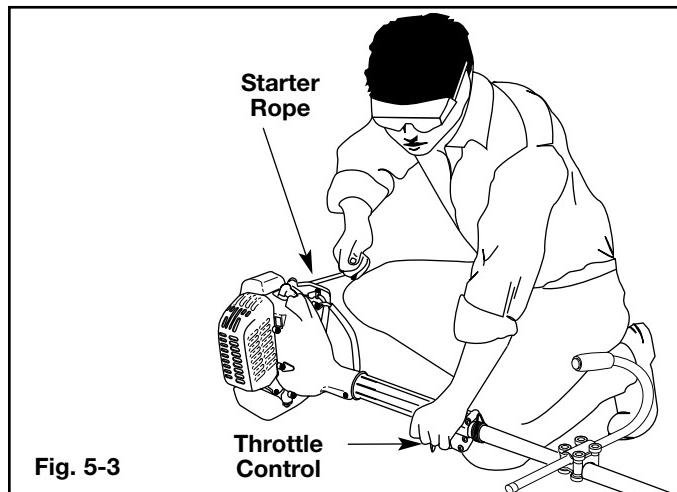

Fig. 5-3
7. With the unit in the starting position (Fig. 5-3) pull the starter rope briskly 5 times in the **FULL** choke (**A**) $\downarrow\lrcorner$ position. If the engine attempts to run before the fifth pull, proceed to step 8.
4. With the unit in the starting position (Fig. 5-3), pull the starter rope briskly until the engine starts.
5. When the engine starts, move the choke lever to the **RUN (C)** $\uparrow\lrcorner$ position, and run at full throttle for 30 seconds.
1. Release your hand from the throttle control (Fig. 5-3). Allow the engine to idle.